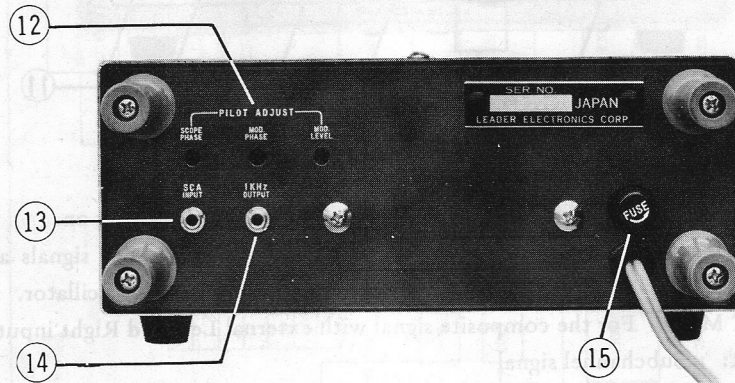

Fig. 1-2 Rear panel controls.
trols, switches, etc., designated in Fig. 1-1 and Fig. 1-2.
- ⑧ COMPOSITE OUTPUT jack: All signals as selected with the FUNCTION switch and the pilot signal are available at this jack. The output is used in checking stereo multiplex circuits.
- ⑨ FREQUENCY SET adjuster: Used in adjusting the RF carrier frequency; nominally set at 100MHz, adjustable range is $\pm 1\text{MHz}$.
- ⑩ RF LEVEL switch: Three positions for setting the RF output at approximately 10mV, 1mV and 0.1mV, at HIGH, MEDIUM and LOW respectively.
- ⑪ RF OUTPUT connector: BNC type for connection to the RF output cable; output impedance is 75Ω .
B. Rear Panel, Fig. 1-2